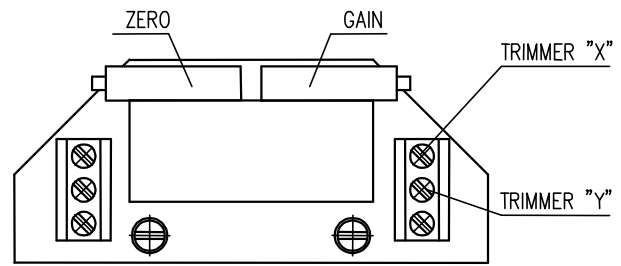

Fig. 6
#### 4.4.2 EPV – 3-wire version (Fig. 6, 6a)
- Adjust the resistive transmitter according to the previous chapter. The resistance is to be metered on the terminals **X-Y**, resp. **0%-100%** (Fig. 6, 6a). The used transmitter resistance is **2000  $\Omega$**  or **100  $\Omega$** .